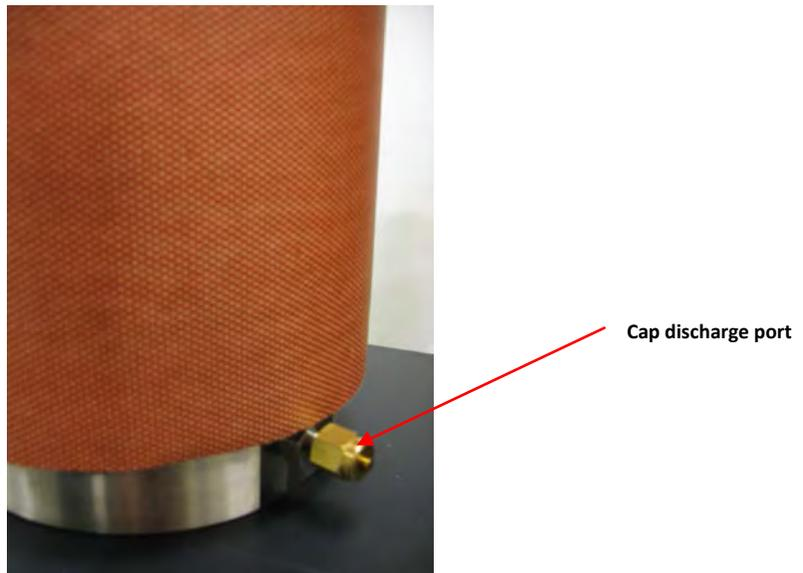

Figure H13 – Cap reservoir #2 discharge port
2. Cap the reservoir #2 discharge port with a cap nut (figure H13) and securely tighten (this will be under pressure during a test).